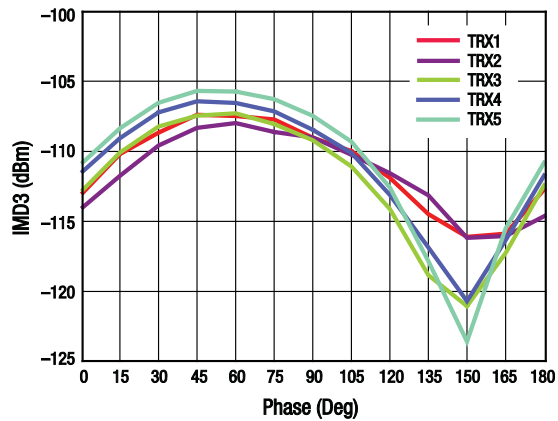

Figure 17. 3rd Order Intermodulation Distortion vs Phase, TRX Ports (f_{FUND} = 1.95 GHz, f_{BLK} = 1.76 GHz, f_{RX} = 2.14 GHz)
Figure 20 illustrates the test setup used to measure data for Figure 17. This industry standardized test is used to simulate the WCDMA Band 1 linearity of the antenna switch. A +20 dBm Continuous Wave (CW) signal, f_{FUND}, is sequentially applied to the TRX1 through TRX5 ports, while a -15 dBm CW blocker signal, f_{BLK}, is applied to the ANT port.